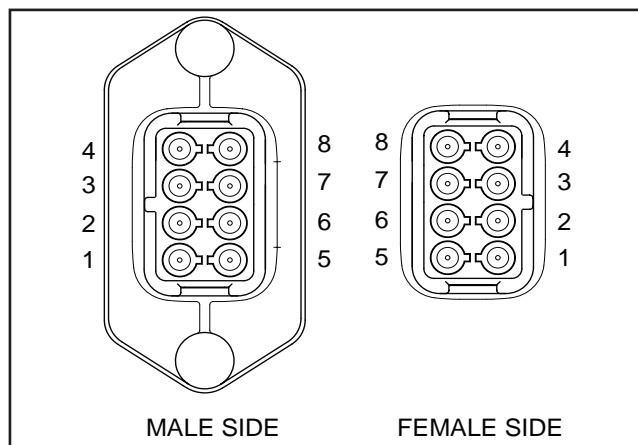

Figure 5. C2 Connector Pin Locations
6. Refer to Figure 5 for pin locations of C2 Connector. Use a large paper clip or similar metallic object to access pins in C2 Connector (Female Side).
26. Disconnect the C2 Connector from the control panel. Refer to Figure 5 for the pin locations (**Male Side**).